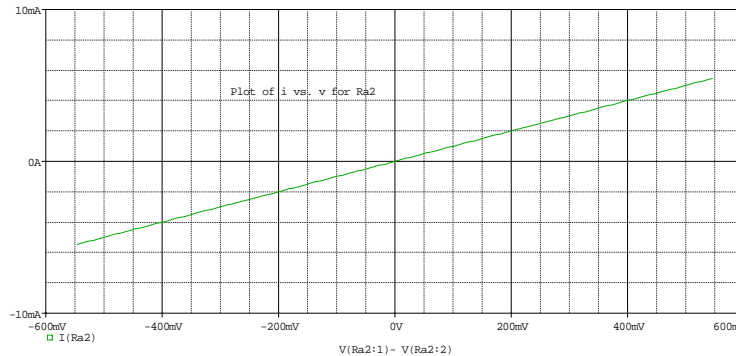

Figure A-5
- The plot produced will show the  $I-v$  characteristic for resistor Ra2. Your PROBE plot should look something like figure A-5: